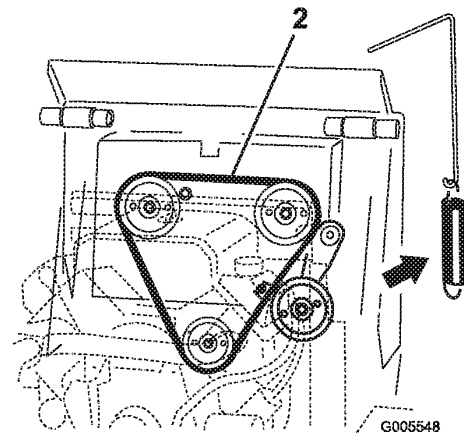

Figure 44
- Remove the idler pulley spring from the idler pulley assembly (Figure 44).
- Install a new drive belt around the three pulleys (Figure 44).